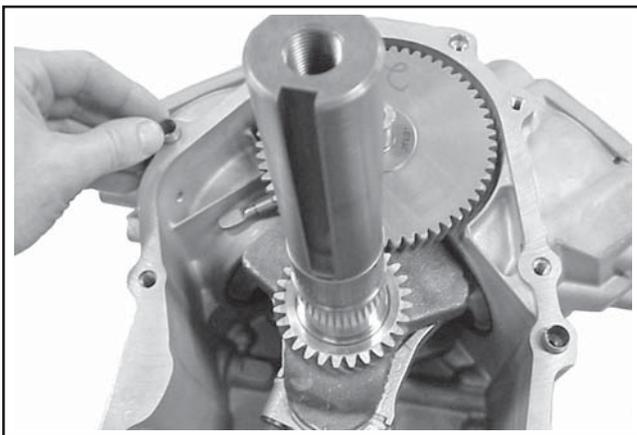

Figure 11-17. Installing Locating Pins.
4. Make sure end of governor cross shaft is lying against the bottom of cylinder #1 inside of the crankcase. See Figure 11-17.
5. If alignment pins were removed previously, install them in their respective locations in the crankcase. See Figure 11-17.